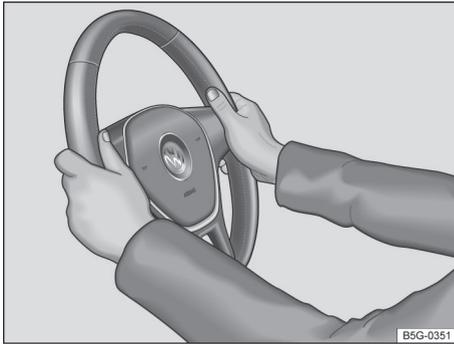

Fig. 56 On the steering wheel: 9 o'clock and 3 o'clock positions.
- Adjust the steering wheel position so as to be able to hold it by the outer rim *in the 9 o'clock and 3 o'clock position* → Fig. 56 with both hands and slightly bent arms.
- After adjusting the steering column, always move lever ① up so that it engages securely. This prevents the steering column from moving while the vehicle is in motion.
- While driving, always keep both hands on the rim of the steering wheel, *at the 9 o'clock and 3 o'clock position* → Fig. 56 to reduce injuries caused by a driver's frontal airbag deployment.